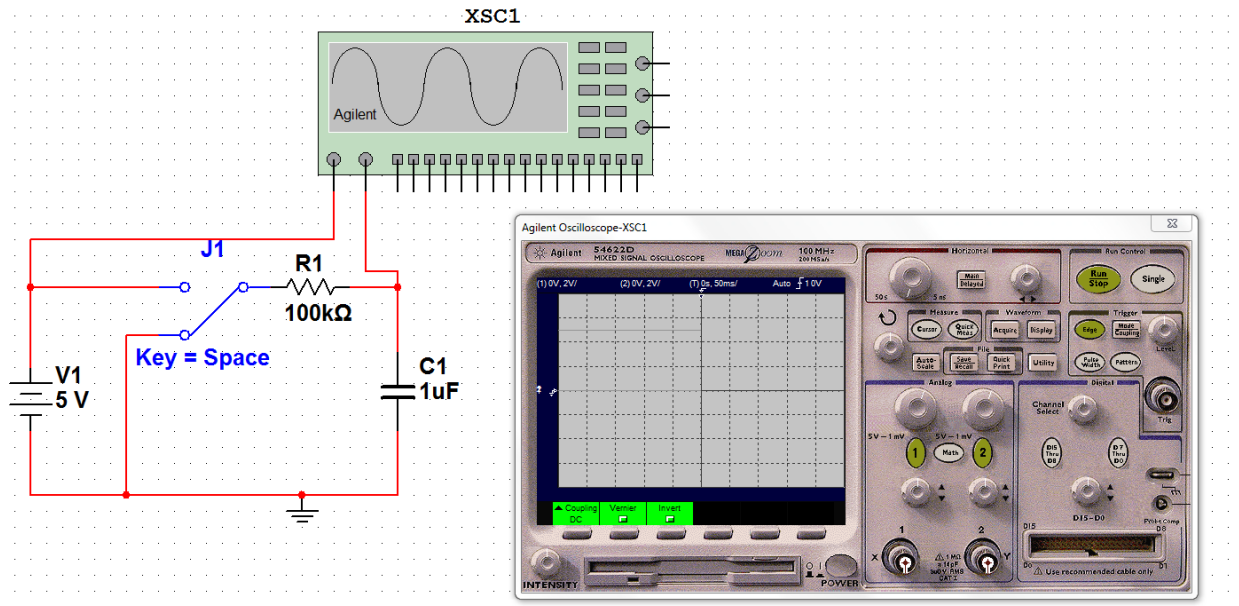

Figure 3: Interactive Simulation Setup
- When you are finished your diagram should look like Figure 3.